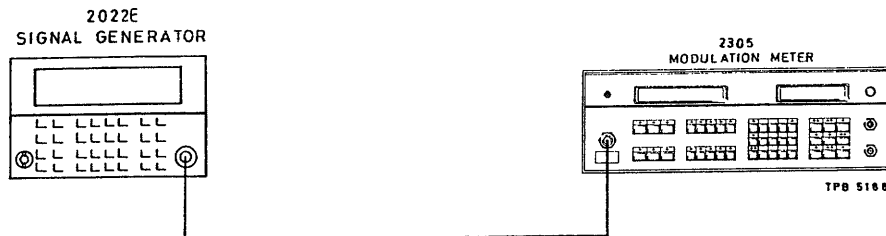

Fig. 5-6 Test gear arrangement for checking phase mod. and distortion
(1) Connect test equipment as shown in Fig. 5-6 and set the 2022E controls as follows :